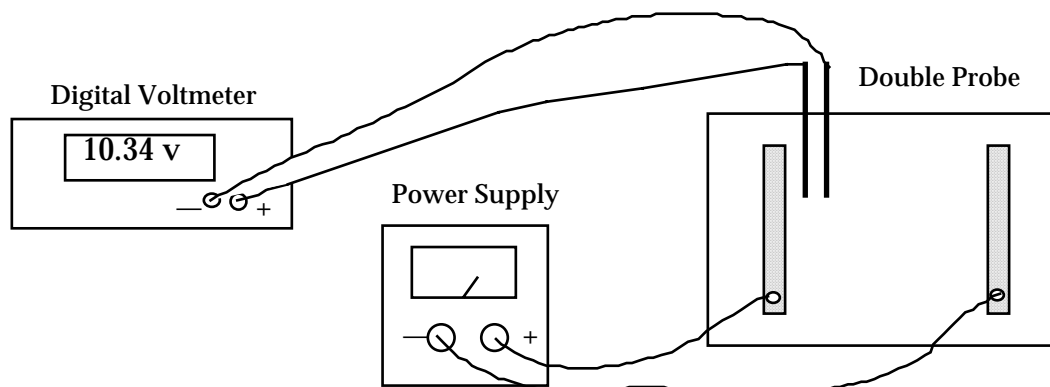

Figure 3. Arrangement for measuring electric field in volts/cm.
**Electric Field Lines:** Next you will plot the electric field lines on the same drawing. A different probe will be used as shown in Figure 3. This probe measures the difference in potential between two points separated by 1 cm. The electric field is defined as the difference of potential divided by the separation. The separation of the points is approximately 1 cm so that the meter readings will be the electric field  $E$  in volts/cm if the probe is oriented to give the maximum reading.